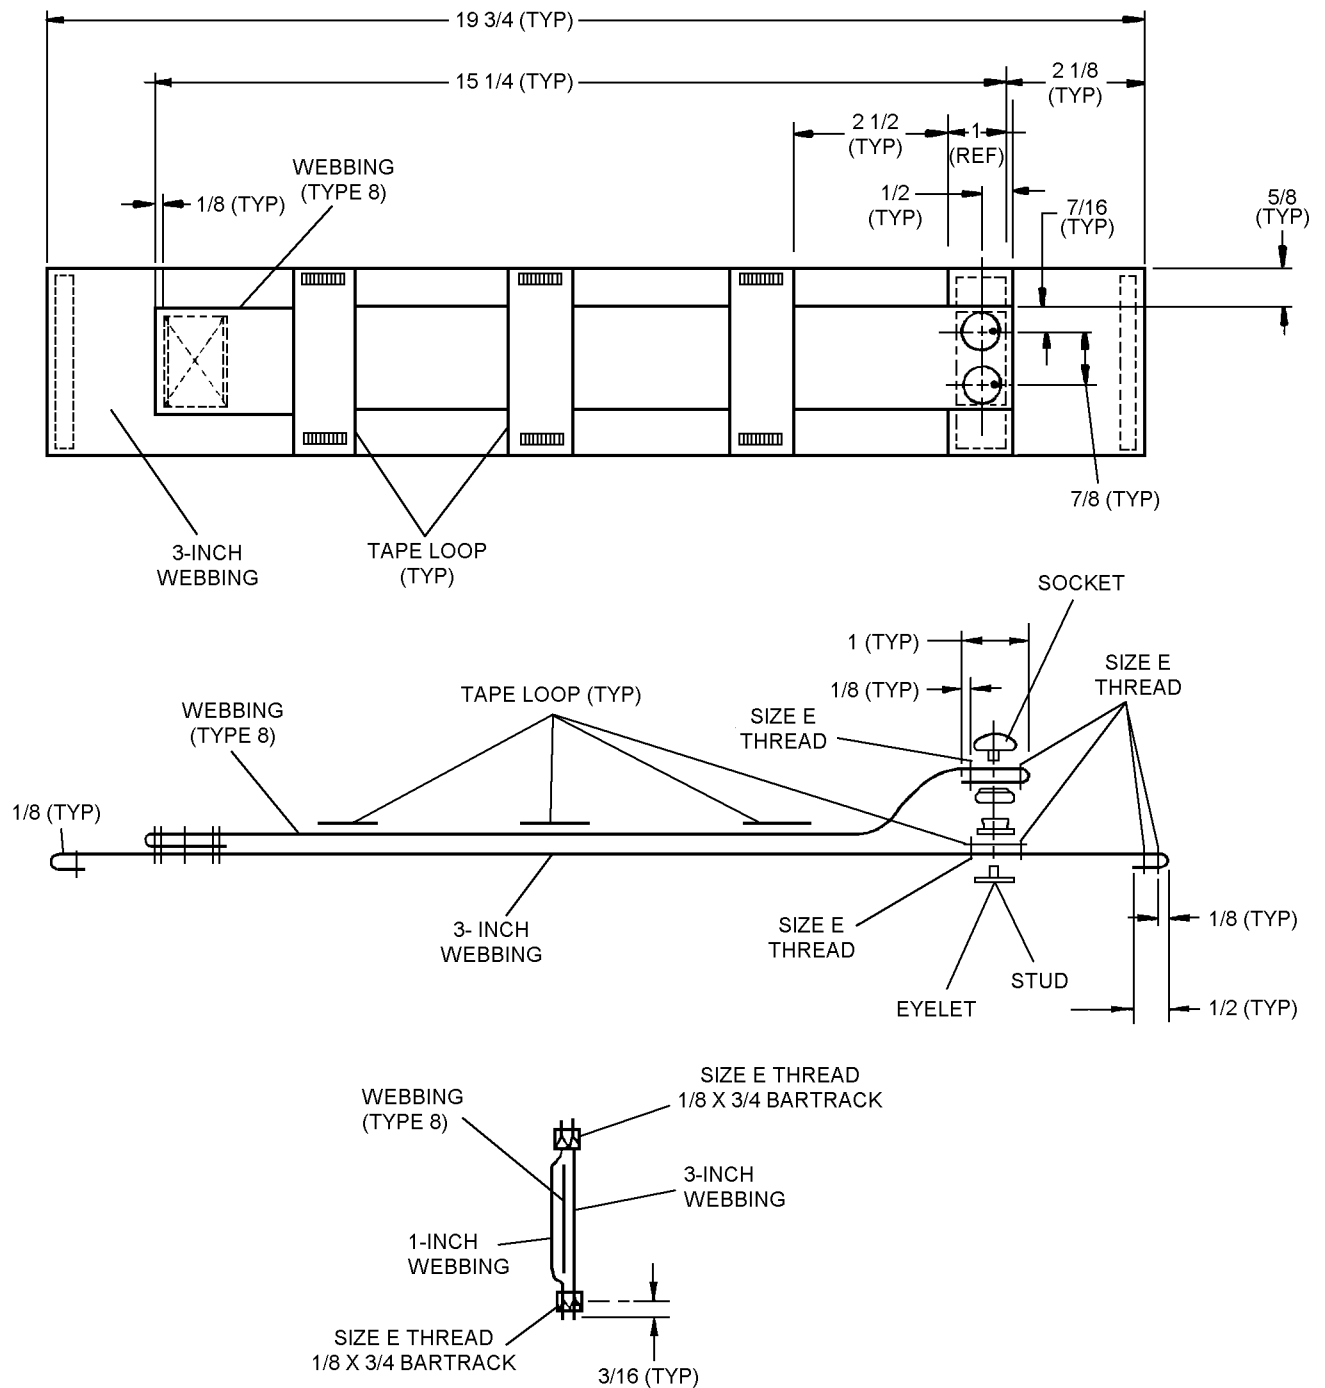

Figure 7-5. Survival Vest Securing (Waist) Belt Assembly
c. Fold one end under 1 1/4 inch and crossbox stitch using size E thread. Install sockets and buttons as described in step 3 above. See figure 7-5 for dimensions and orientation.